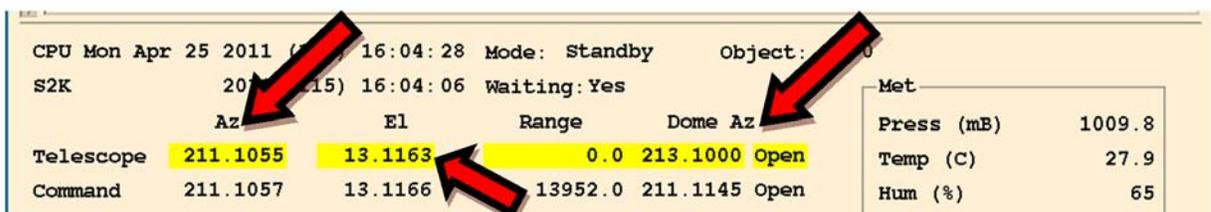

Figure 8-9: Section of Ratgui menu showing the mount and dome azimuth values
- a. **Verify that the azimuth of the dome and telescope are within 5°** – Using the RAT display, compare the commanded azimuth of the mount and the actual azimuth of the dome (Figure 8-9). The difference between the two should be within 5° for the laser to fire. If the difference is greater than 5°, reboot the Dome Controller and the Dome Motor Controller to reset the dome control system.
- b. **Verify that the mount is not below 20° elevation** – If it is the beginning of a satellite pass, the system may start tracking before the laser is enabled to fire. Remember that the system will not fire the laser when the mount is below 20° in elevation, unless it is configured to perform a ground calibration (Figure 8-9).